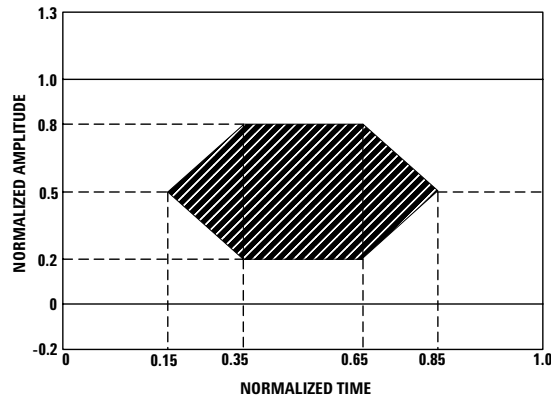

Figure 9a. FC1063 Transmitter eye mask diagram
| Optical Rise/Fall Time | $T_{RISE/FALL}$ | | | 0.26 @ 1.25Gb/s 0.32 @ 1.0625Gb/s | ns | 4, 5. Figs 9a,b |
5. An eye diagram (Figures 9a and 9b) specifies laser transmitter pulse response characteristics. The characteristics include rise time, fall time, pulse undershoot, and ringing, all of which are controlled to prevent excessive degradation of the receiver sensitivity. The output optical waveform @ 1.0625 Gb/s complies with the requirements of the eye mask discussed in section 6.2.1 and Fig 16 of FC-PI Rev 13. The output optical waveform @ 1.25 Gb/s complies with the requirements of the eye mask discussed in section 38.6.5 and Fig 38-2 of IEEE 802.3.